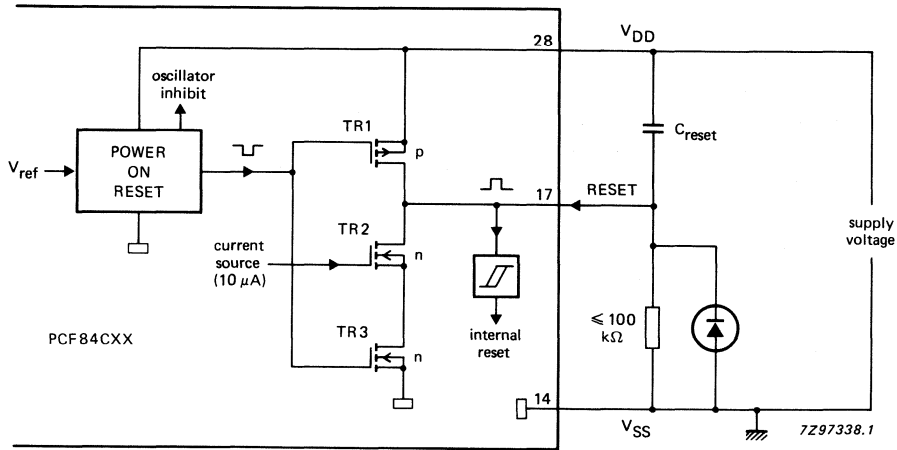

Fig. 25 Stretched power-on-reset with external components.
2. If  $V_{DD}$  has a slow rise time then the RESET signal should be stretched by an external RC circuit (see Fig. 25 and 26). In the event of a short drop in the supply voltage, the diode path rapidly discharges the capacitor to ensure a reliable power-on reset. To ensure a correct reset, the RESET signal should reach at least 70% of the final value of  $V_{DD}$ . Given that the RESET voltage and  $V_{DD}$  rise exponentially, the above requirement is satisfied when the time constant  $\tau$  of the RESET pulse is  $>8$  times the time constant of  $V_{DD}$ . If  $V_{DD}$  rises linearly, then a RESET time constant  $> 2$  times the rise time of  $V_{DD}$  is required.